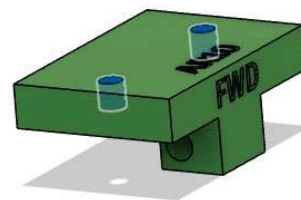

Figure 0-8
- 2 holes at the top of the AR10 pivot block (ensure this part looks like the letter T when installing in the top). Refer to Figure 0-8